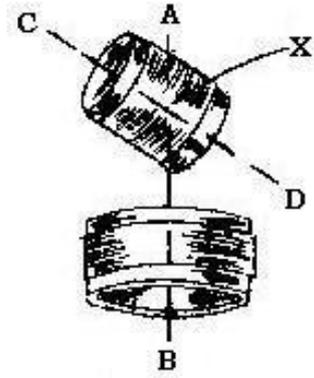
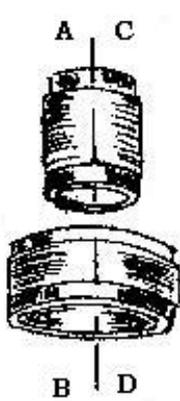
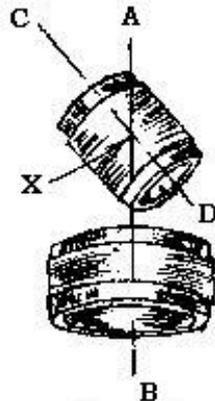

Fig. 20
Fig. 21
Fig. 22
In Fig. 20 one of the coils has axis "A-B" and the other has axis "C-D". The two axes cross each other at "X". They are at an angle to each other. The amount of mutual inductance between these two coils depends on the angle between their axes.
In Fig. 21 we have the two coils of Fig. 20 with no angle or a zero angle between their axes. This, of course, gives the greatest possible amount of mutual inductance because most of the lines of force from each coil cut the conductors of the other coil.
In Fig. 22 the axes of our coils have been turned at an angle. The axis of one coil, line "A-B", is crossed by the axis of the other, line "C-D", at the point marked "X". Then we have the angle "A-X-C". In Fig. 22 we have about three-quarters as much mutual inductance as in Fig. 21.
22. This greater angle reduces the amount of mutual inductance which here is about one third as much as it was in fig. 21. The greater the angle between
coupling as was done in Figures 21 to 24. We can vary the amount of coupling and so we call such a device a "variable coupler". The name "vario-coupler" was once used to mean the same thing as variable coupler.